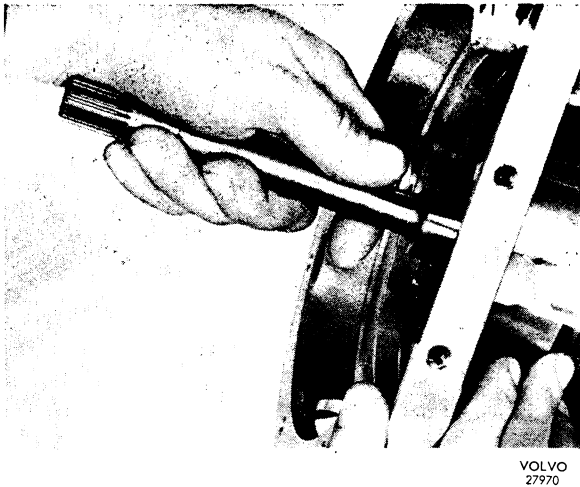

Fig. 4-81. Withdrawing front clutch assembly
24. Withdraw the front clutch assembly and input shaft complete, see Fig. 4-81. Take care of the thrust washers. Take out the front brake band.